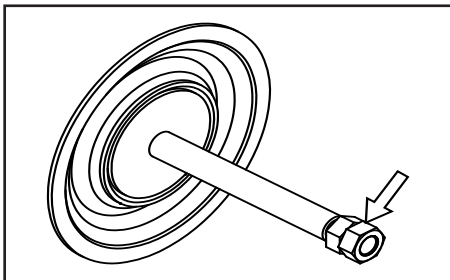

Figure 21
- Remove the nut on the opposite side using the double nut (See Figure 21).